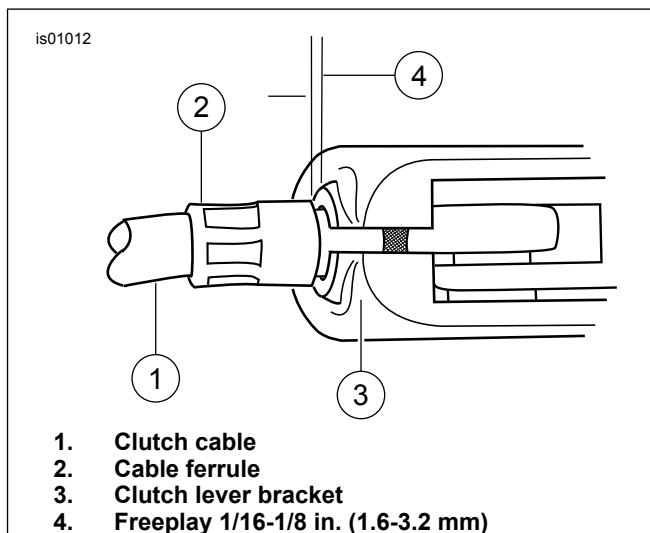

Figure 5. Clutch Hand Lever
- b. See Figure 5. Pull clutch cable ferrule (2) away from clutch lever bracket (3) to check free play. Turn cable adjuster as necessary to obtain 1/16-1/8 inch (1.6-3.2 mm) free play between end of cable ferrule and clutch lever bracket.